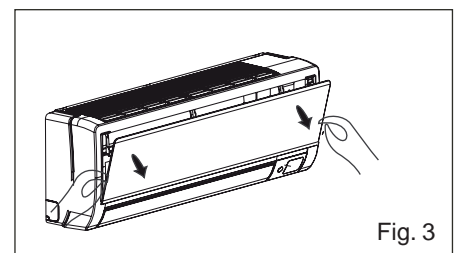

Fig. 3
- 1) Open upper side of Indoor Unit's frontal panel (Fig. 3).